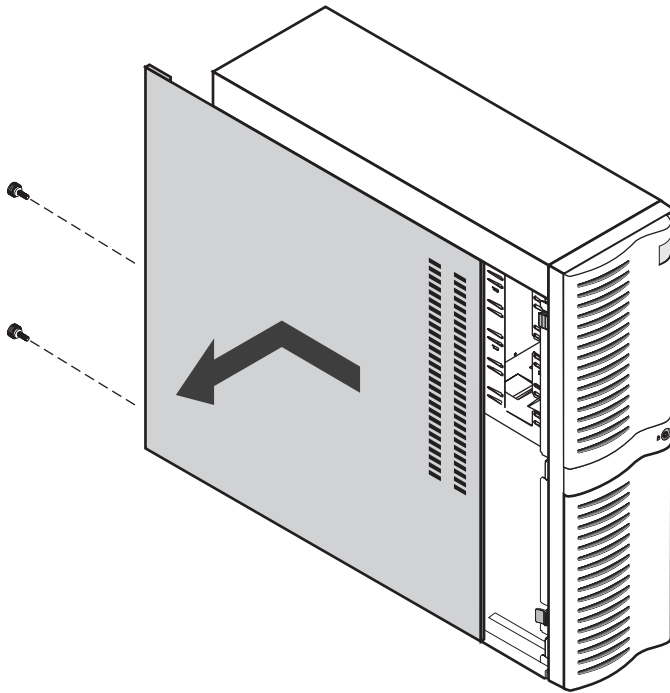

Figure 1: Removing the Side Panel
2. On the rear of the system, remove the two screws that secure the side panel to the chassis. Save the screws (see Figure 1).